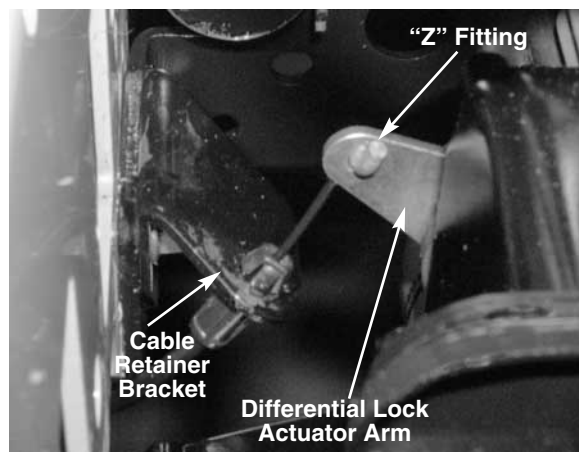

FIGURE 6.
19. Remove the “Z” fitting from the differential lock actuator arm. See figure 6.